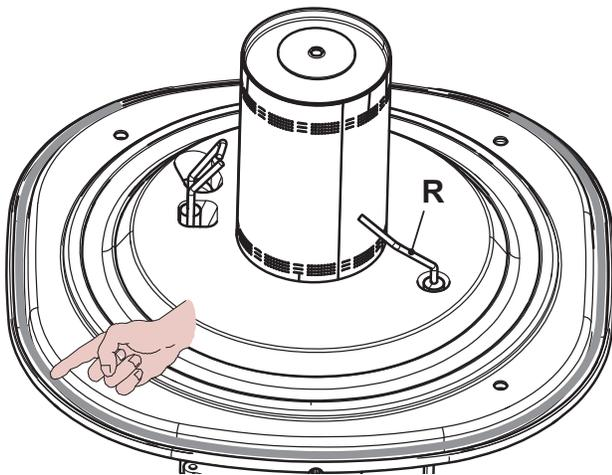

Fig. 9.13
- The detection electrode R in Fig. 9.13 also functions as a sensor for the correct drainage of the condensate. Should the mentioned electrode come into contact with the condensate water present within the combustion chamber it sends the boiler into safety lockout. Therefore, should the insulation be wet or deteriorated, provide for the substitution of the same.
Caution: After any periodical servicing or disturbance the combustion chamber silicon seal Fig. 9.13 must be fully inspected and replaced at the discretion of the service engineer.